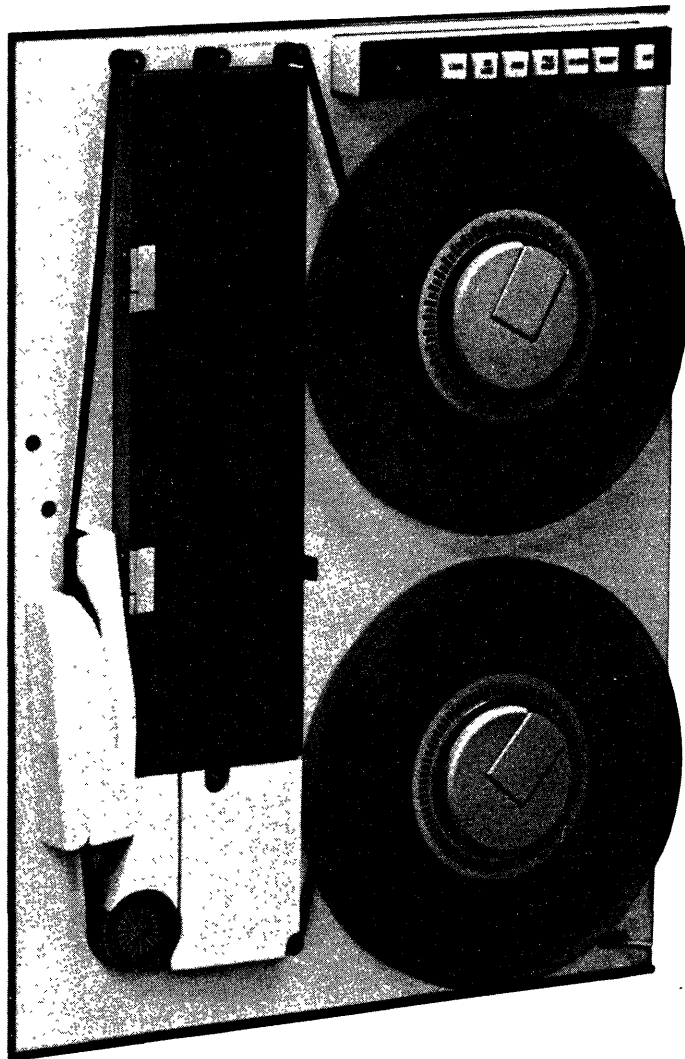

Figure 1-1. Model 2760 Magnetic Tape Unit
The Model 2760 is a highly reliable, dual vacuum column, digital magnetic tape drive. See figure 1-1. The Model 2760 reads and writes data in ANSI and IBM compatible formats using either NRZI or phase encoded (PE) methods. Data is recorded on either 7-track or 9-track tapes at 125 inches per second (ips). A dual speed 125/75 ips tape unit is also available. Magnetic tape recorded on the Model 2760 can be read on any other ANSI or IBM compatible tape unit. Also, the Model 2760 can read 7-track or 9-track tapes recorded on any other ANSI or IBM compatible tape unit. The tape unit uses Maximum 10-1/2 inch diameter tape reels.